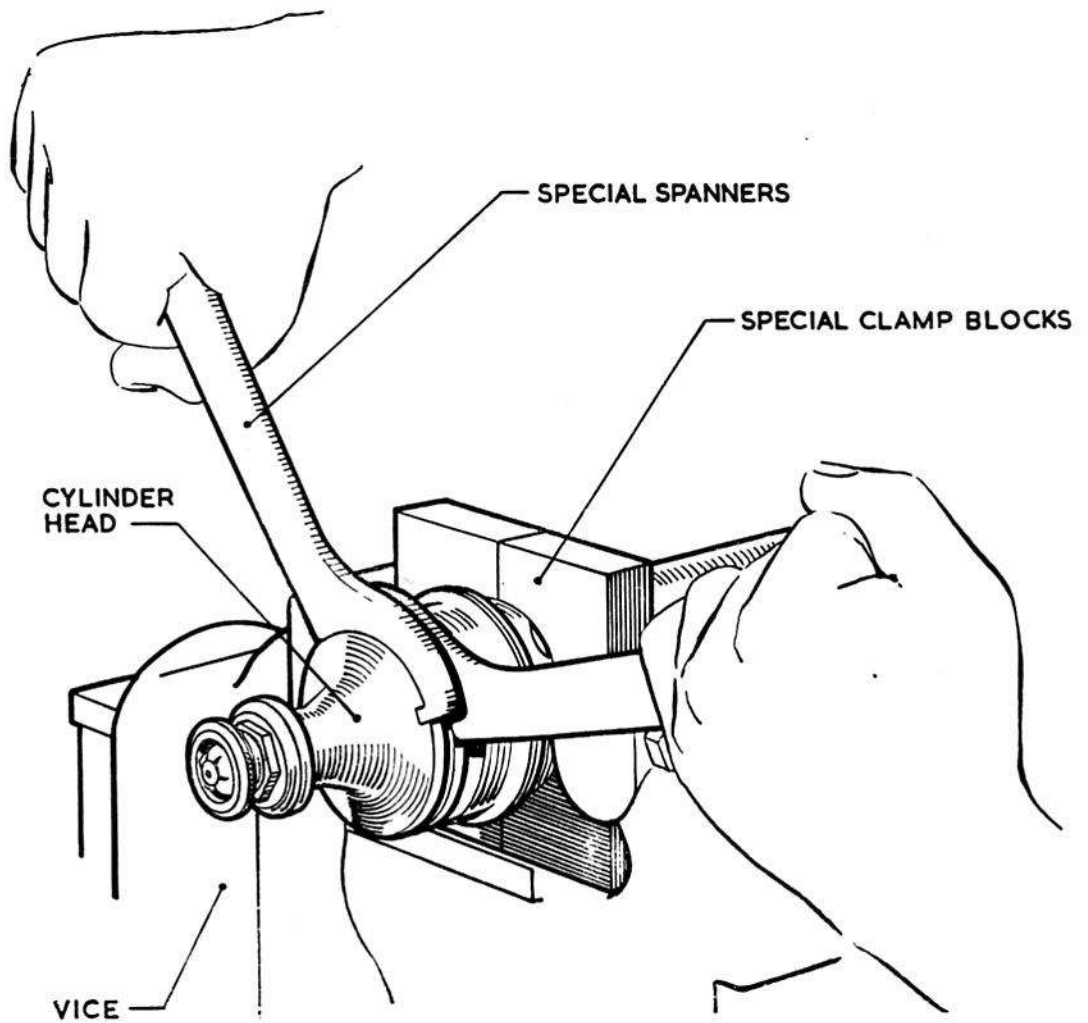

Fig. 6. Removing cylinder head
- (1) Grip the cylinder tube in the special clamp blocks (*fig. 6*), remove the locking wire and unscrew the cylinder head, using the special C-spanners provided. Do not remove the end cap from the cylinder tube.